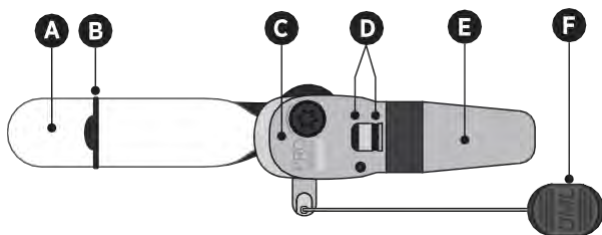

FIGURE 2 UML Pro Sensor Elite - Automatic
AUTOMATIC (Fig. 2)
AUTOMATIC & MANUAL (Automatic see Fig. 2; Manual see Fig. 3)
1. Status indicators are green (see “Know Your Inflation Mechanism Type”, Fig. 2 – 5).